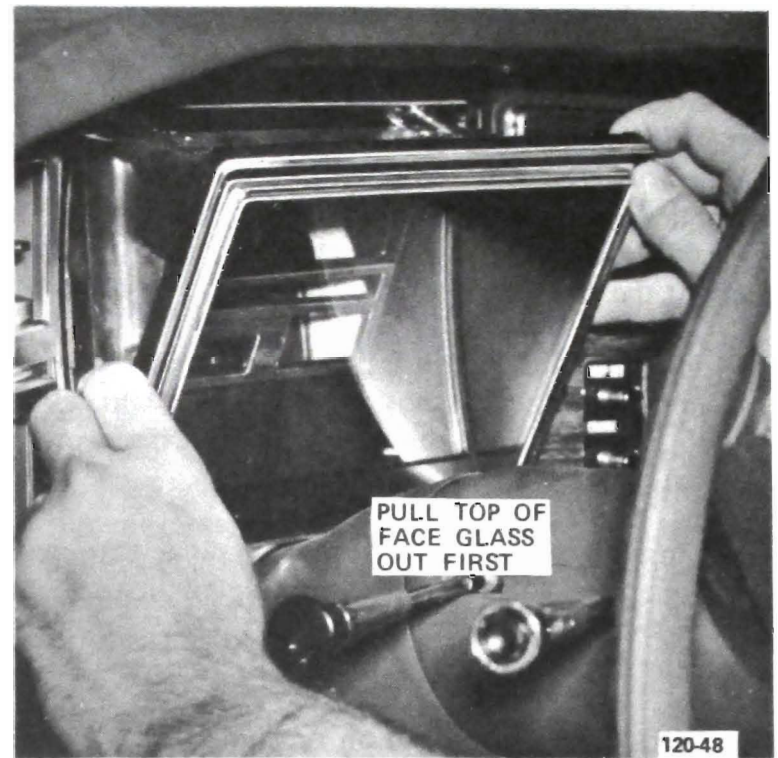

Figure 120-43 Removing Speedo Face Glass
4. Pull glass out, as shown in Figure 120-43.